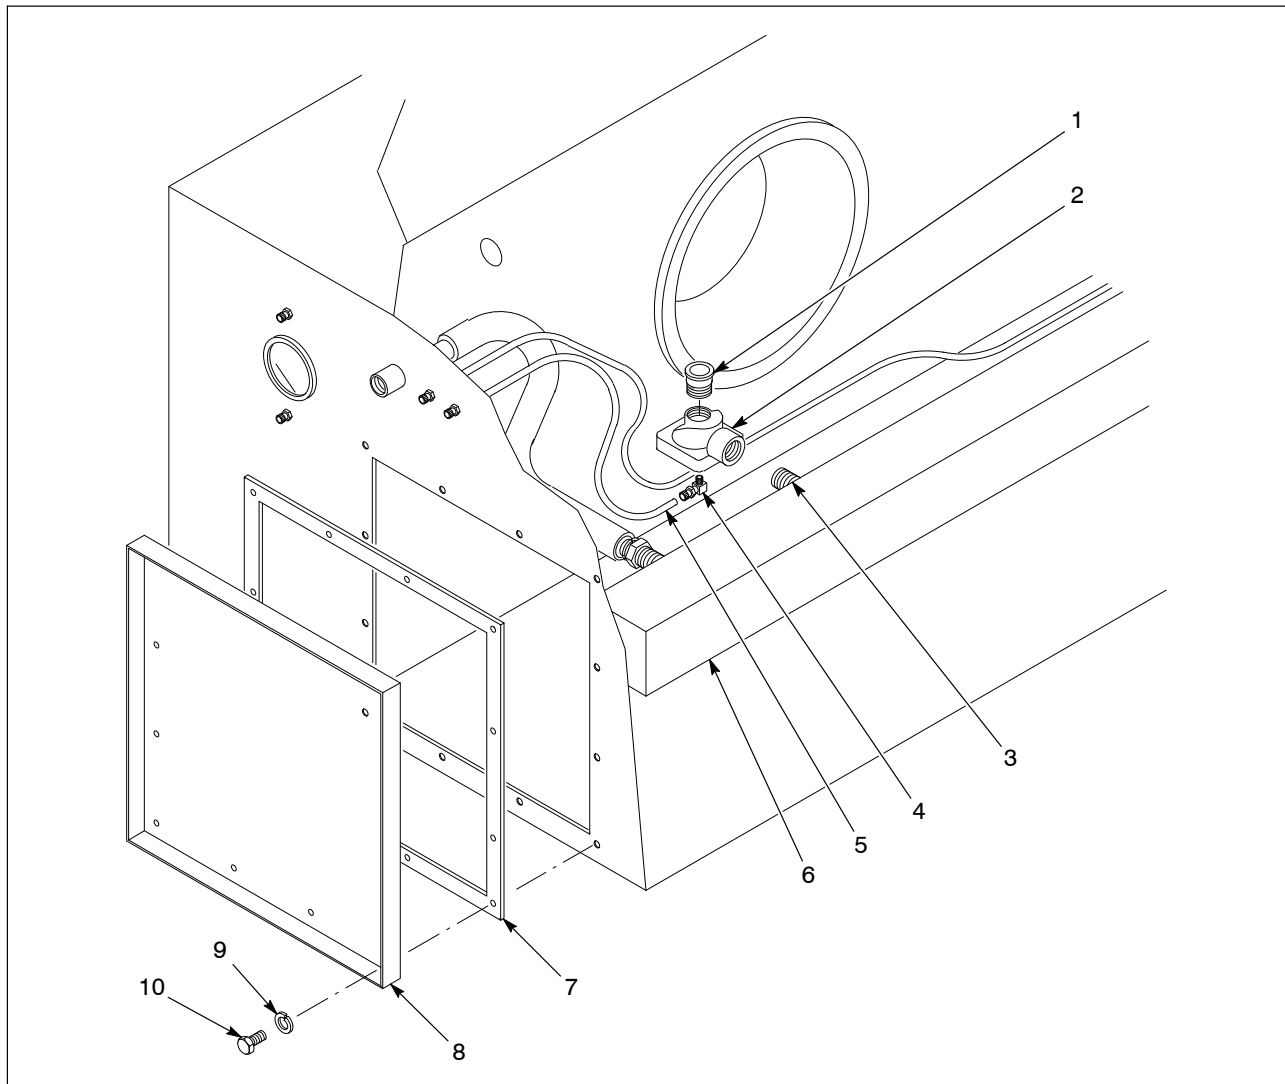
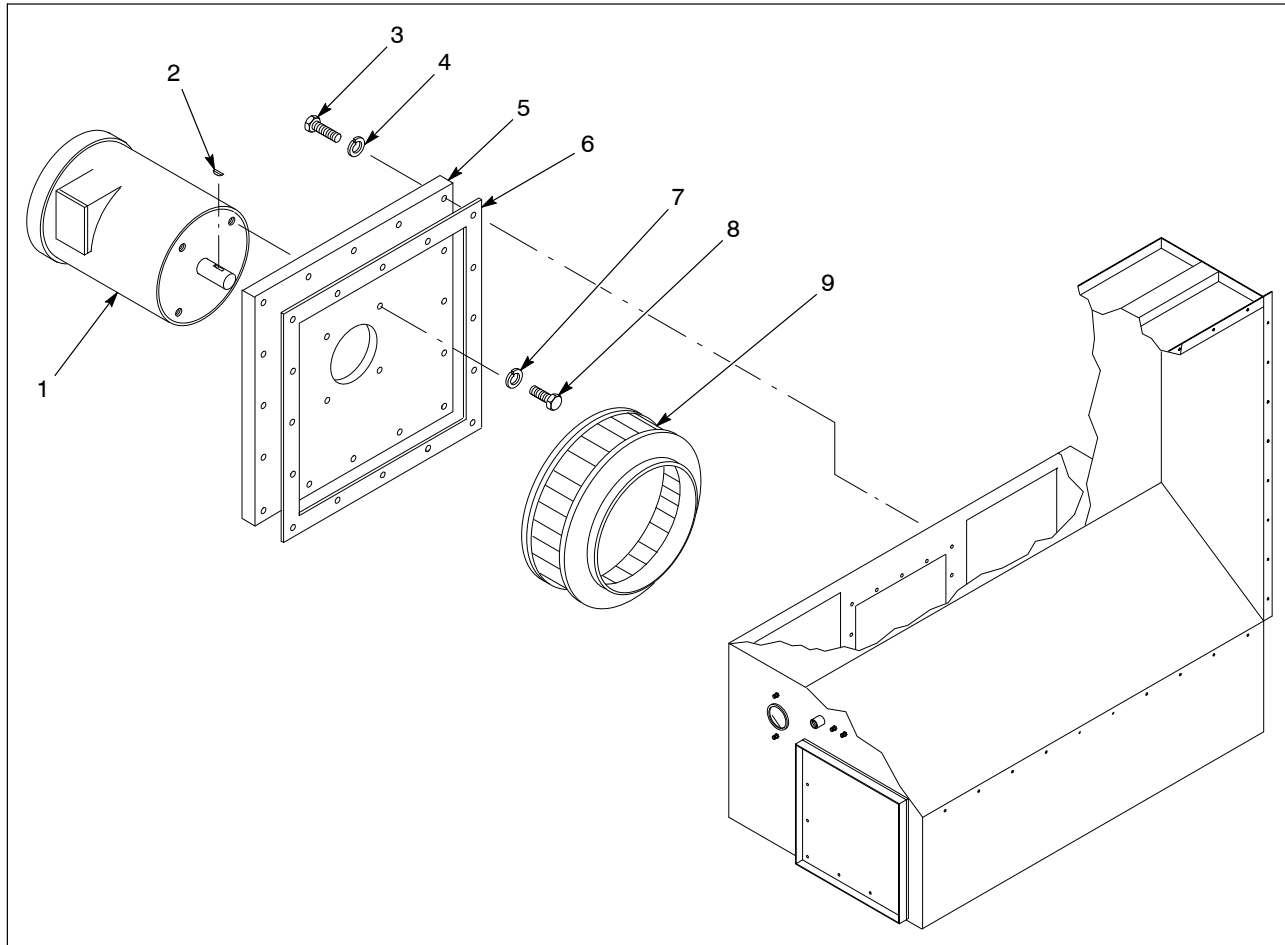

Figure 6-3 Pulse Valve Replacement
Figure 6-4 Fan and Motor Replacement
2. See Figure 6-3. Remove the screws (10) and lock washers (9) from the cover plate (8) on the side of the compartment.
3. Remove the cover plate. Do not damage the gasket (7).
4. Disconnect the air tubing (5) from the pulse valve elbow tube fittings (4).
5. Unscrew the pulse valves (2) from the manifold pipe nipples (3).
6. Remove the showerhead nozzles (1) and elbow tube fittings from the old pulse valves.
2. See Figure 6-4. Remove the cover plate from the motor junction box and disconnect the booth wiring from the motor leads. Note the wire colors and numbers so you can reconnect them correctly later.
4. Block up the motor (1), then remove the screws (3) and lock washers (4) securing the motor plate (5) to the collector module.
6. Loosen the 3 square-head setscrews in the fan wheel hub and pull the fan wheel (9) off the motor shaft. Save the shaft key (2) for reuse. The fan wheel must be keyed to the shaft.
7. To replace the motor, remove the screws (8) and lock washers (7) securing the motor to the motor plate.
8. Install the new motor on the motor plate (with the junction box oriented as shown in Figure 6-4) with the screws and lock washers removed in step 7.
11. Check the motor plate gasket (6) and replace it if it is damaged.
13. Rotate the fan by hand 360° to make sure it does not rub against the cone. If it does, remove the cover plate on the side of the collector module (see Figure 6-3), loosen the bolts securing the inlet cone and adjust the cone's position.